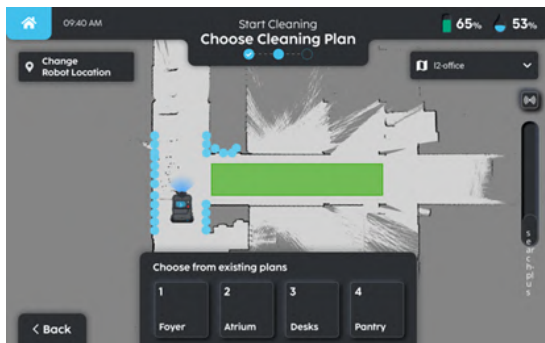

FIGURE 6-6
1. Select the cleaning area and confirm the area (**Fig. 6-6**).